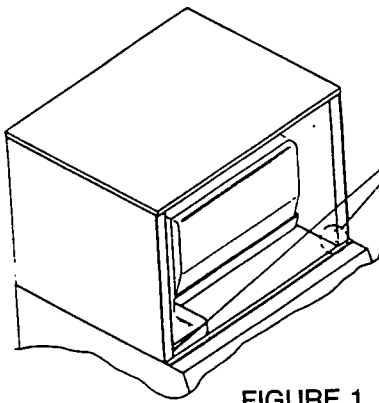

FIGURE 1
- a. Locate the four threaded inserts, two on the L.H. front, lower side panel and two on the R.H. front, lower side panel. Refer to figure 1.